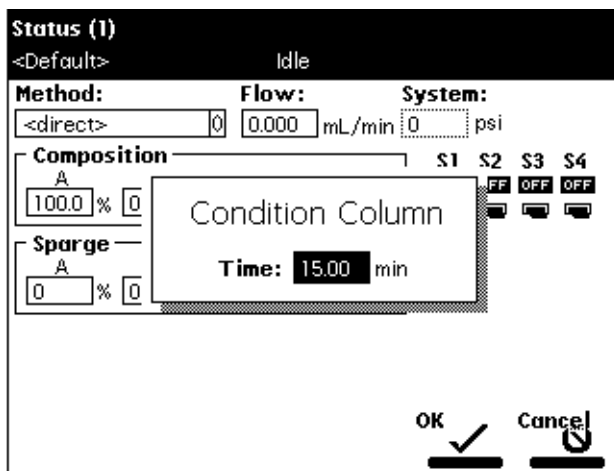

Figure 4-15 Condition Column Dialog Box
4. Select **Condition Column**, then press **Enter**. The Condition Column dialog box appears (Figure 4-15).